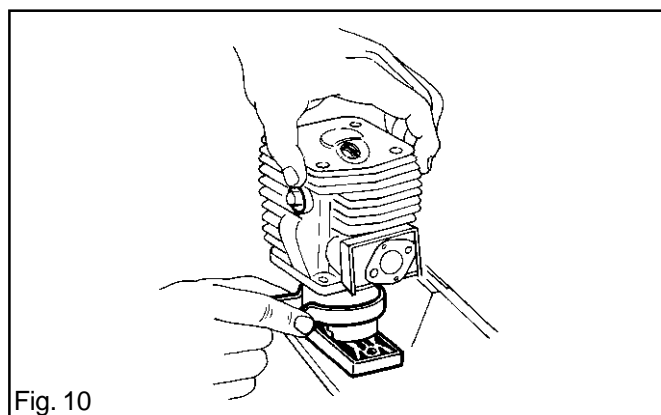

Fig. 10
7. Compress the piston ring, either by hand or with tool 502 50 70-01. See fig. 10. Carefully fit on the cylinder.